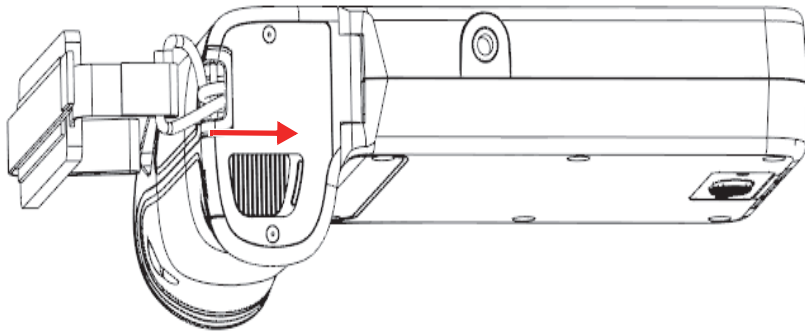

Figure 4-1 Battery compartment cover release button
1. Hold the EPOCH 6LT so the battery compartment cover is facing up as shown in Figure 4-1 on page 45.